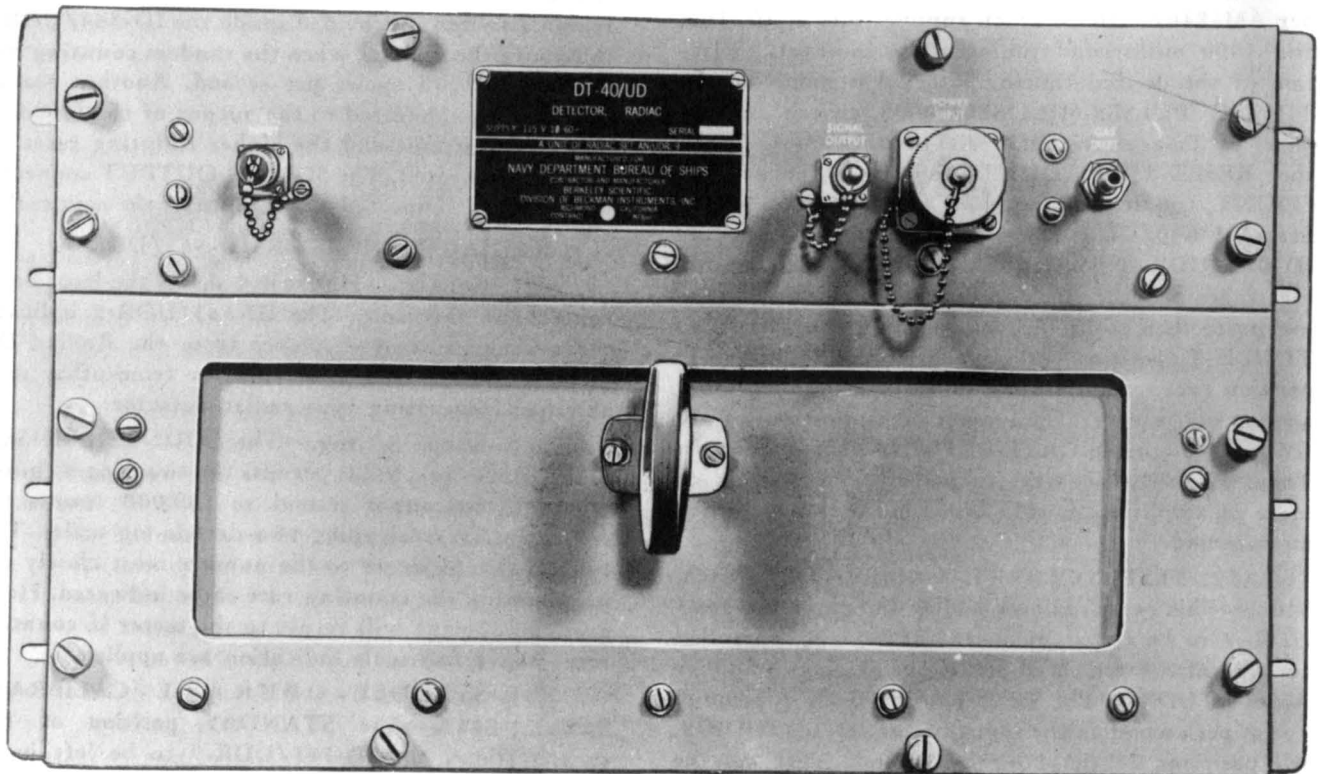

Figure 4-5. Radiac Detector DT-40/UD, Front Panel Controls
f. **RADIAC DETECTOR DT-40/UD.**—Figure 4-5 is a front panel illustration of the DT-40/UD. The POWER INPUT receptacle is for connection of power cable W103 from the ACCESSORIES connector on Power Supply PP-948/UDR-9. This connector supplies -300V AC, -105V DC, and 6.3V AC for the DT-40/UD preamplifier. The detected pulses from the DT-40/UD are taken from the SIGNAL OUTPUT connector for connection to the INPUT PULSE connector on Trigger Amplifier AM-840/UDR-9. The +H.V. INPUT connector is for connection of the high DC voltage required for the detector anode lead. The high DC voltage is supplied from the H.V. OUT connector on Power Supply PP-948/UDR-9 through the high voltage cable W101. The GAS INLET connection is for receiving gas for the detector chamber.